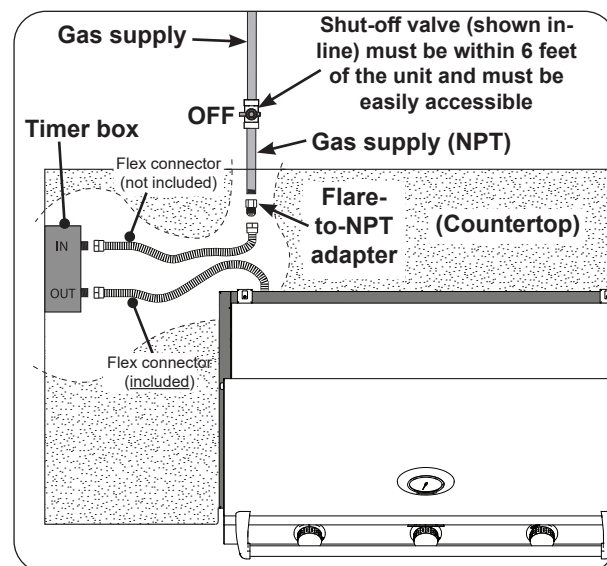

Fig. 23-2 Household LP & Nat. gas diagram
3. Using two wrenches, connect the flex connector coming from the grill to the $\frac{1}{2}$ " **flare adapter labeled OUT**. See Fig. 23-2. Ensure the connection is tightened securely.
4. **Connect gas source to IN:** Using two wrenches, connect a flex connector (not included) to the $\frac{1}{2}$ " **flare adapter labeled IN**. See Fig. 23-2. Ensure the connection is tightened securely.
5. Route the flex connector coming from the timer box to the gas supply stub (see Fig. 23-2).